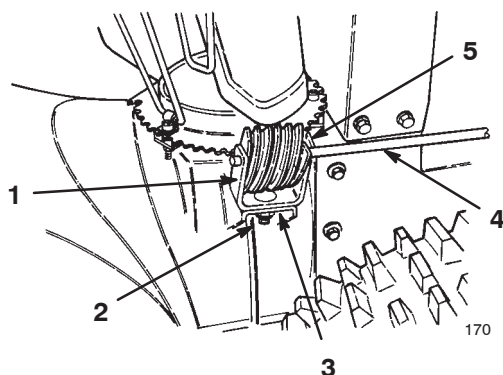

Figure 2
2. Remove the worm gear, gear bracket, chute gear rod, carriage bolt, flat washer, and locknut (Fig. 2).
1. Insert the 1-inch (2.5 centimeters) carriage bolt into the mounting hole of the gear bracket (Fig. 2).
2. Position the worm gear into the bracket, align the holes, and insert the chute gear rod through the bracket and the gear (Fig. 2).
3. Loosely mount the worm gear and the bracket to the mounting flange with a carriage bolt, a flat washer, and a locknut (Fig. 2).